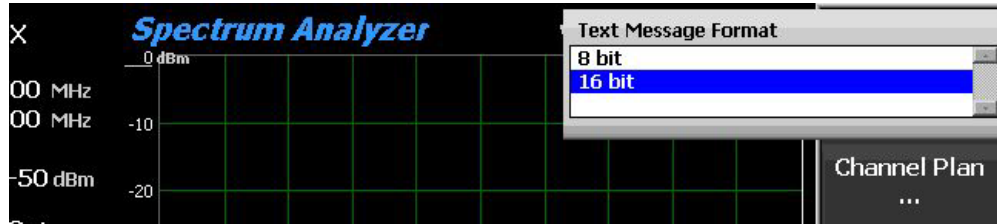

Figure 29 – Setting Text Message Format
- Set the Message Type field to Text and the Text Message Format field to 16 bit (see Figure 29).